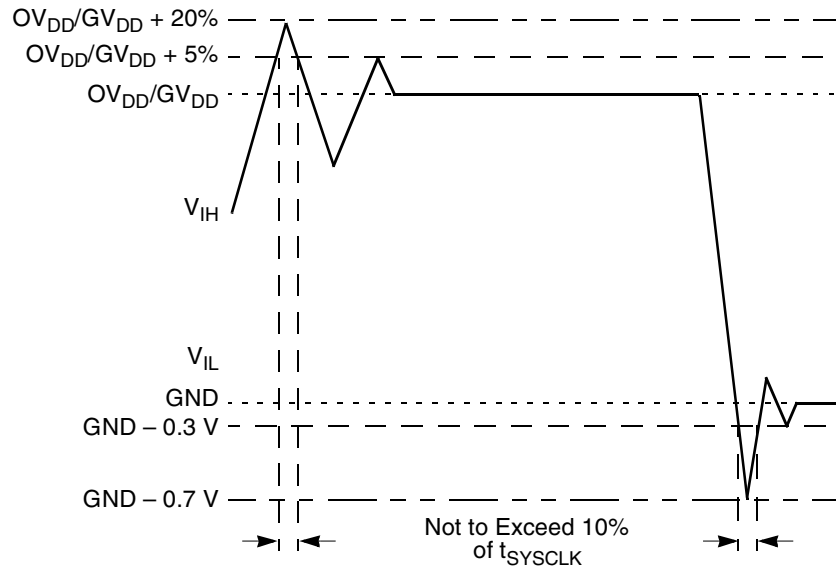

Figure 2. Overshoot/Undershoot Voltage
- $V_{in}$  may overshoot/undershoot to a voltage and for a maximum duration as shown in Figure 2.
Figure 2 shows the overshoot and undershoot voltage on the MPC7455.